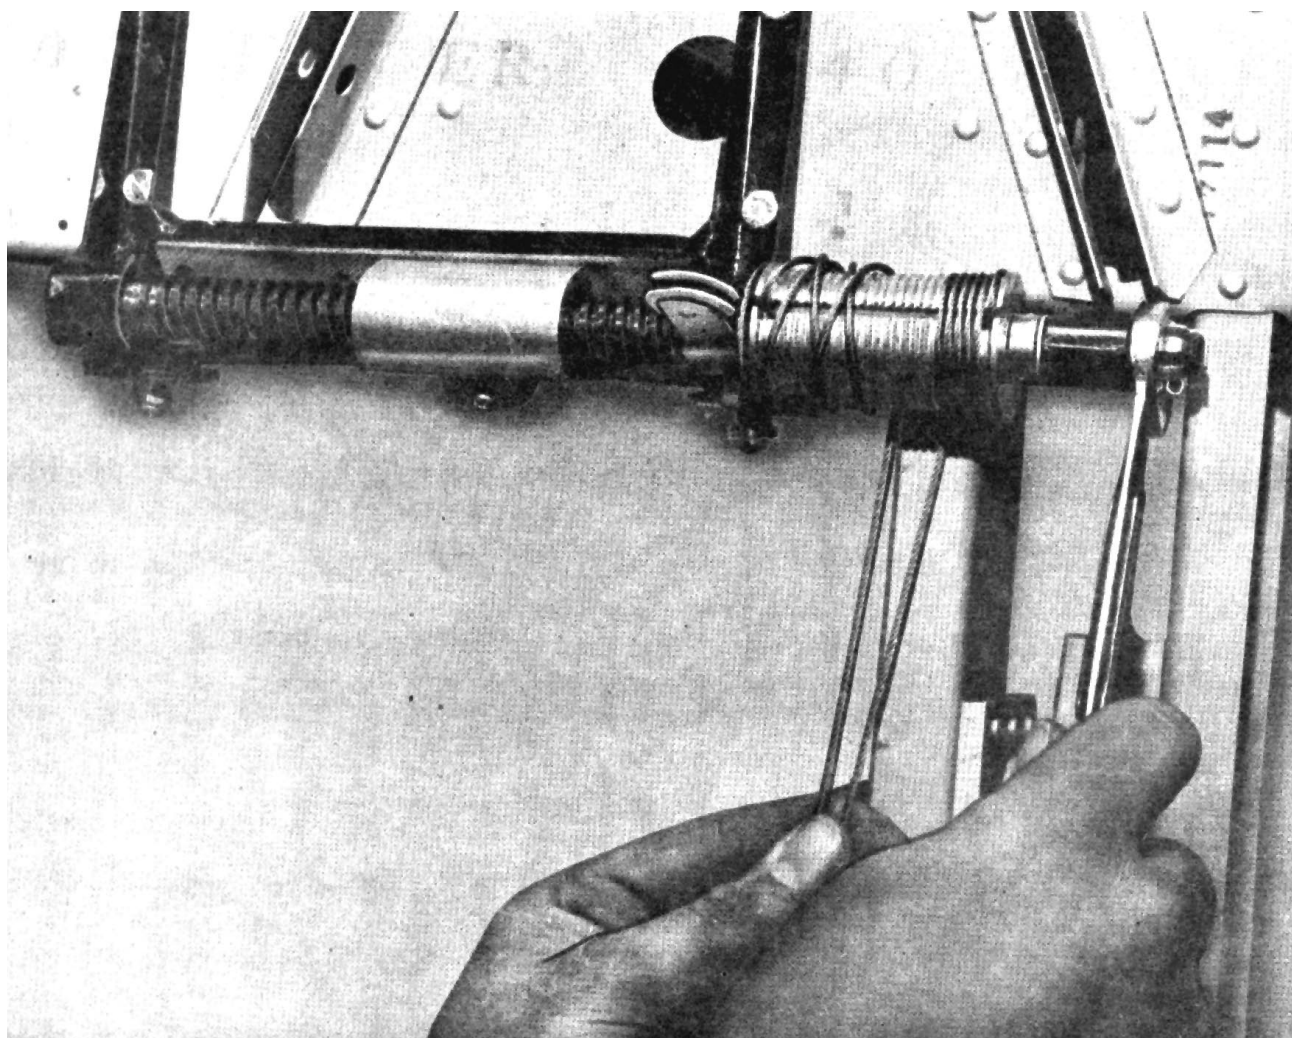

Figure 5-10. Wrapping Elevator Trim Drum Cable
f. Turn the bungee screw in a counterclockwise direction, moving the floating nut to the right. Continue to do so until the floating nut is at its extreme position. As the floating nut travels away from the drum, the cable from the trim pulley will wind itself around the grooves of the trim control drum. Be sure the first wrap does not bear against the drum flange but that it nests in the first complete groove. (Refer to Figure 5-10.) Clamp the cable to the aircraft frame with a C-clamp to keep the cable from unwinding.